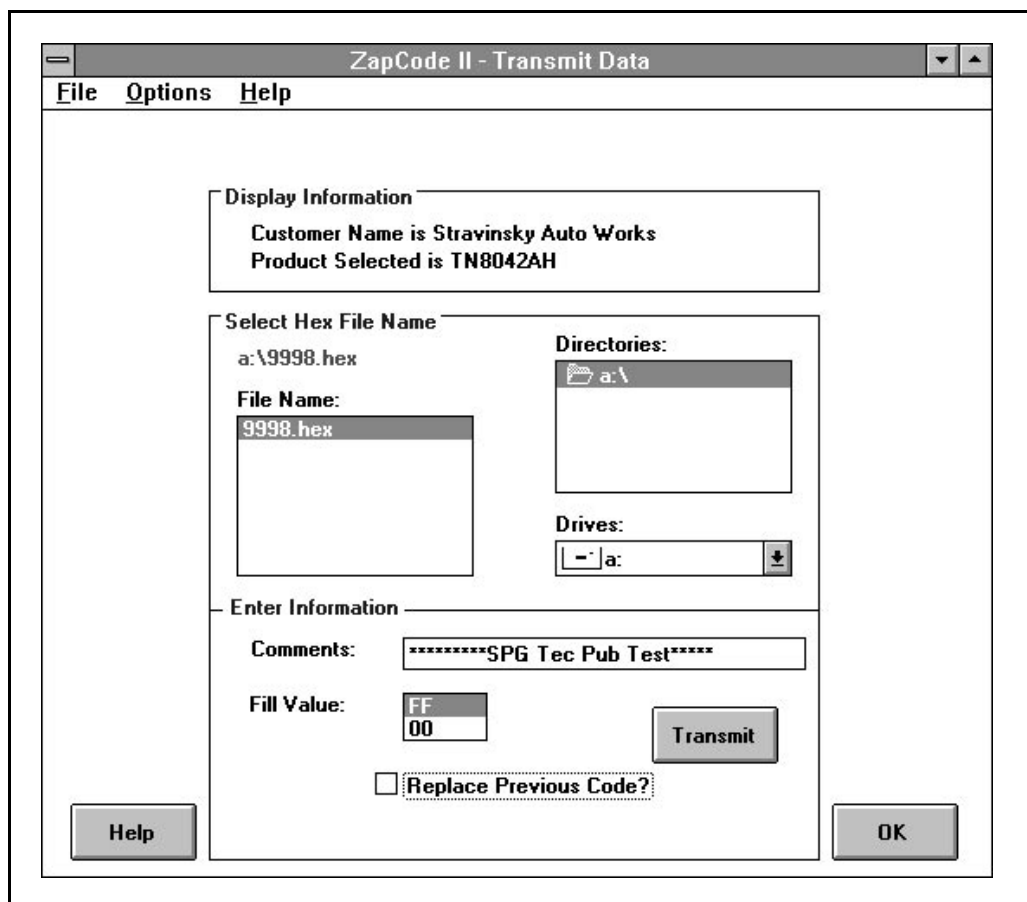

Figure 8-9. Transmit Data Window Example: Hex File Location Only
- The Transmit Data window adjusts itself to provide individual selection boxes for locating the hex file, the encryption array file, and the configuration file, depending on the product you selected. For example, Figure 8-9 illustrates a typical Transmit Data window for a product which requires only a hex file, while Figure 8-10 illustrates a Transmit Data window for a product requiring a hex file, an encryption array file, and a configuration file.
- c. **Replace Previous Code:** If selected, an additional entry field for entering the part number is displayed in the window. Figure 8-9 illustrates the Transmit Data window when Replace Previous Code is not selected. Figure 8-11 illustrates the window when it